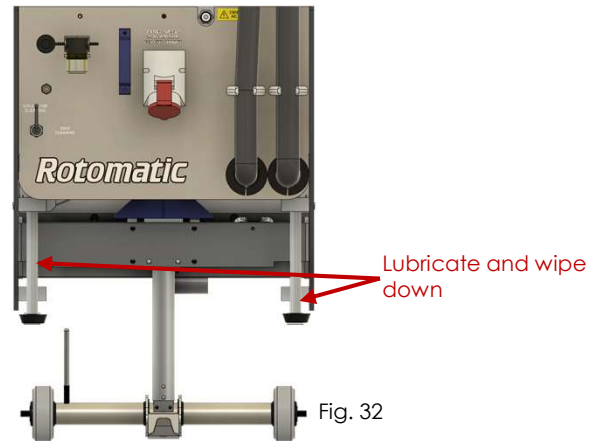

Fig. 32
- Lubricate the round stainless-steel static legs connected to the white and black feet to allow proper sliding action through the leg setting clamps. Fig. 32